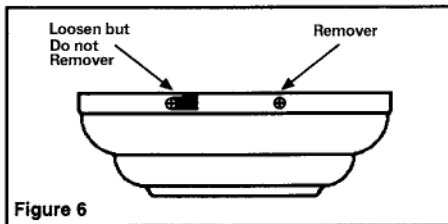

Figure 6
1. Remove the hanger bracket from the canopy by loosening the four screws on the top of the canopy. Remove the two non-slotted screws and loosen the slotted screws. This will enable you to remove the hanger bracket. (Figure 6)